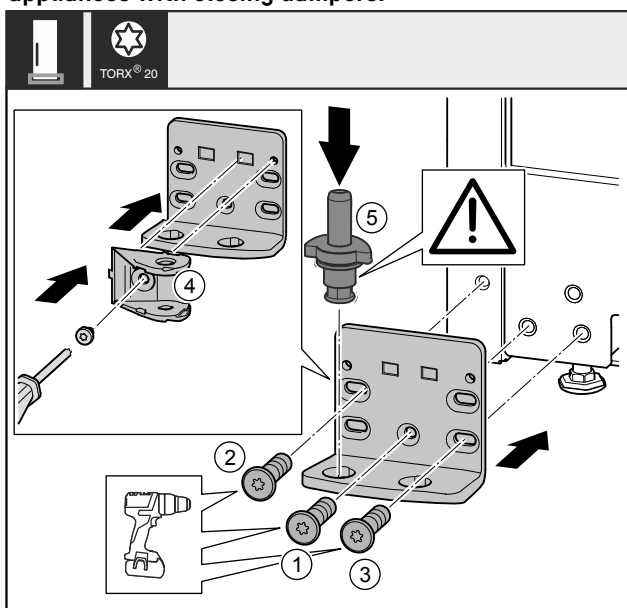

Fig. 36 *
- Place the swap bearing block on the other side and use a screwdriver to screw it on. Start with screw Fig. 36 (1) at the bottom in the middle.*
- Tighten screw Fig. 36 (2) and screw Fig. 36 (3).*
- Turn the closing damper connection Fig. 36 (4) by 180°. Use screwdriver to screw it onto the other side of the swap bearing block.*
- Insert the bearing bolt Fig. 36 (5) completely. Ensure that the latching cam is pointing towards the rear.*